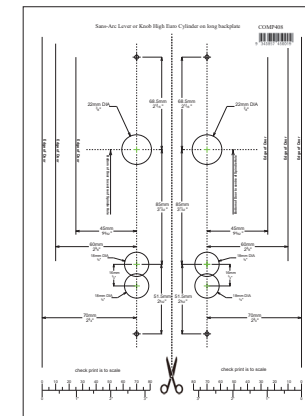

Figure 8
9. ***Entrance Only*** Drill the cylinder hole as per lock installation instructions. ***Check CTC matches your requirements. Figure 8 or 9.**